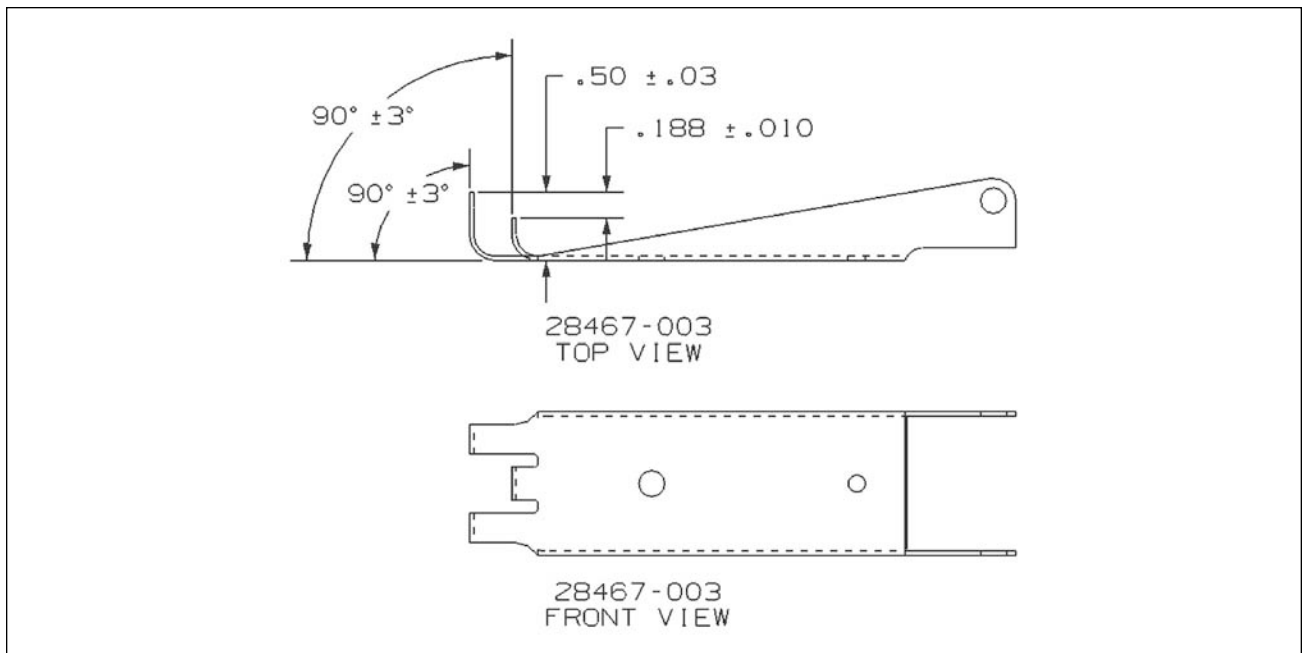

Figure 4-11d. Forward Baggage Door Latch Bracket
- (11) Inspect P/N 28467-003 bracket (4) for damage and condition. Replace as required. Verify the bracket conforms to critical dimensions shown in Figure 4-11d.
- (12) Remove and discard existing door lock (5). Install Kit – Lock Assembly per Table IV-IA.